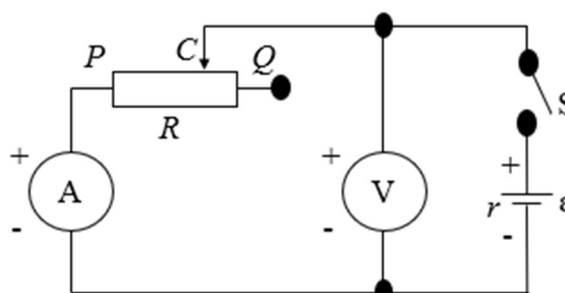

Figure 1
According to Ohm’s Law for a complete circuit (see Figure 1):
1. Connect the circuit as shown in Figure 1 using a 1.5 V dry cell. ensure that the slider of the rheostat starts at the Q end, not the P end.